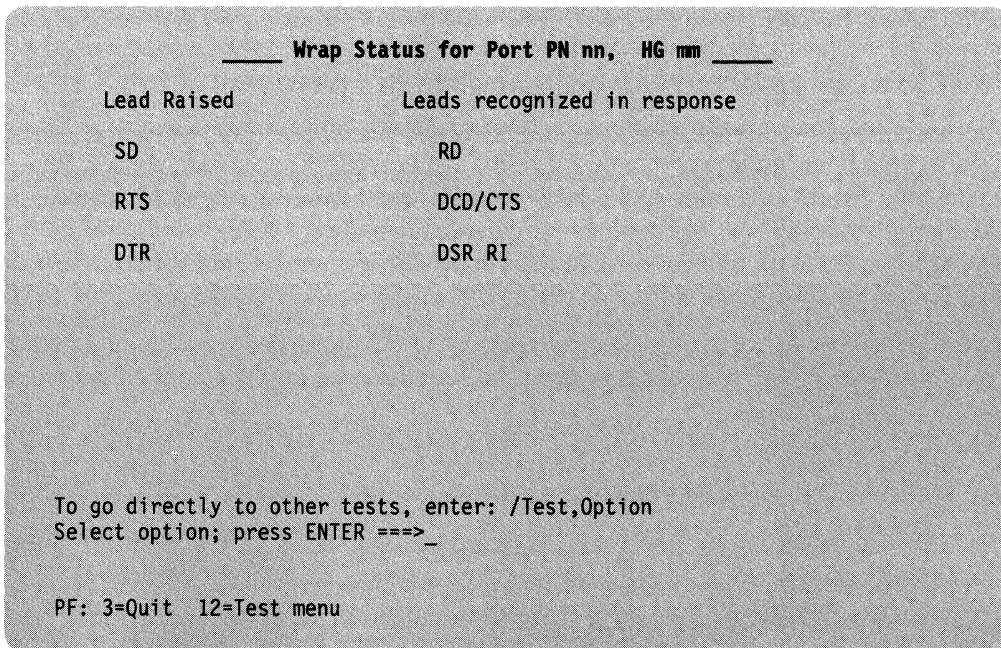

Figure 4-60. Example of and AEA Port Wrap Status Panel.
**Test 12, Option 6:** This test option provides a facility to display the status of specific leads when you are performing a port wrap test. This test is used to verify the cables and connections between the driver/receiver modules on the adapter card and the port connector. A properly operating adapter port results in the port wrap status panel shown in Figure 4-60.